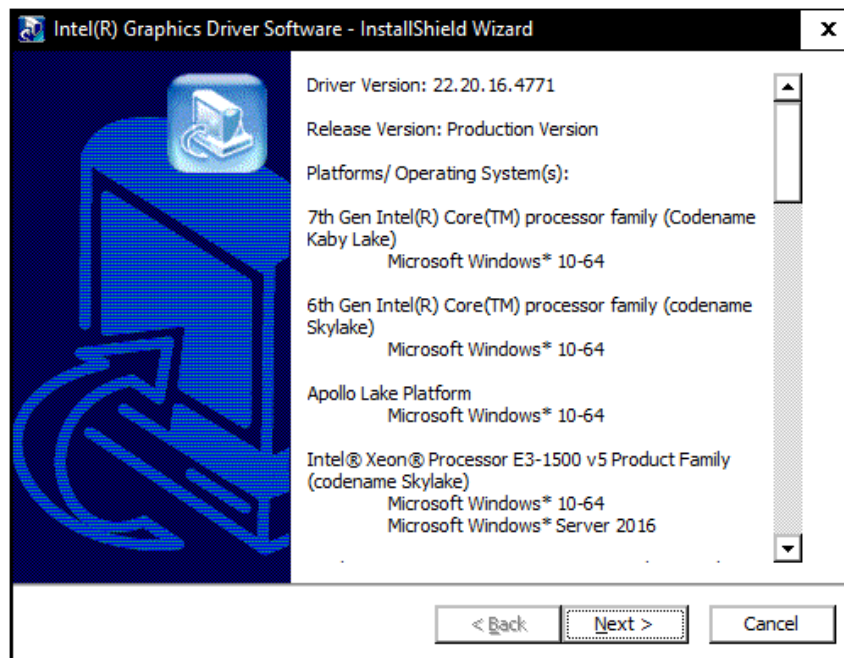

Figure 5-3: Intel® Graphics Driver Installation Wizard
Step 2: Double click the setup file in the folder. The **Intel® Graphics Driver** installation wizard appears (**Figure 5-3**).
Step 2: Double click the setup file. The installation wizard window appears (**Figure 5-3**).